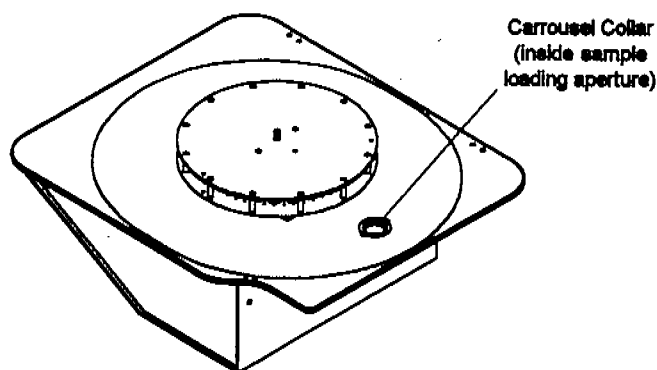

Figure 6-1 Carousel Collar Location
3. Locate the 9/12 ml carousel collar inside the sample loading aperture on the top of the base plate. It is held in by two screws (see Figure 6-1).